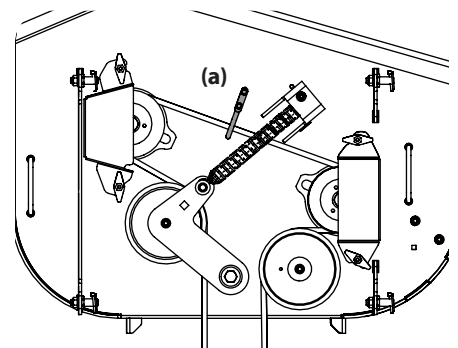
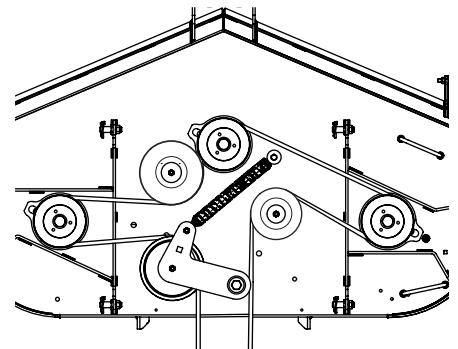

Figure 20
Figure 21
- Remove the belt from around the pulleys. On 36" decks, a belt keeper rod (a) will also need removed. Remove the two bolts securing the belt keeper rod (a) to the deck. See Figure 20.
- Route the new belt as shown in Figure 20 for 36" decks and Figure 21 for 48" and 54" decks. Then reinstall the deck.